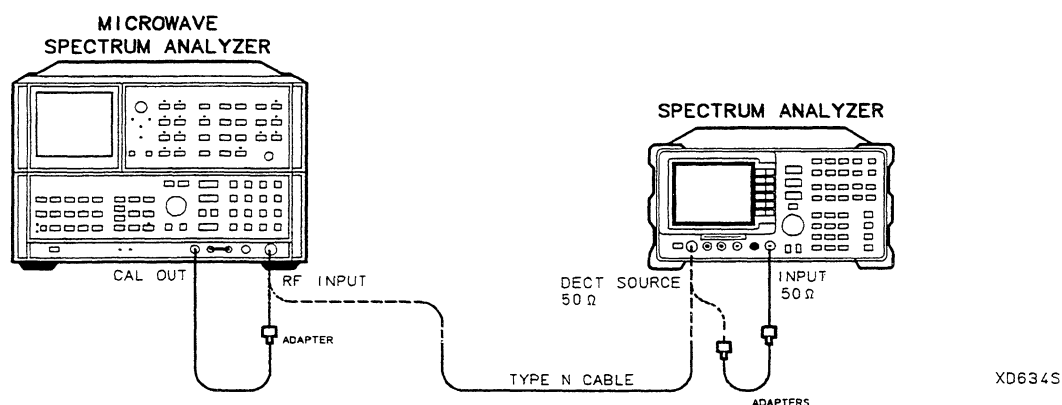

Figure 9-5. Non-Harmonic Spurious Outputs Test Setup
2. Connect the 23 cm BNC cable between the DECT SOURCE 50 Ω and INPUT 50 Ω connectors on the spectrum analyzer, using the N(m) to BNC(f) adapters. Refer to Figure 9-5.
8. Connect the Type N cable from the DECT SOURCE 50 Ω output to the microwave spectrum analyzer RF INPUT as shown in Figure 9-5.
4. Connect the Type N cable from the DECT SOURCE 50 Ω output to the microwave spectrum analyzer RF INPUT as shown in Figure 9-5.